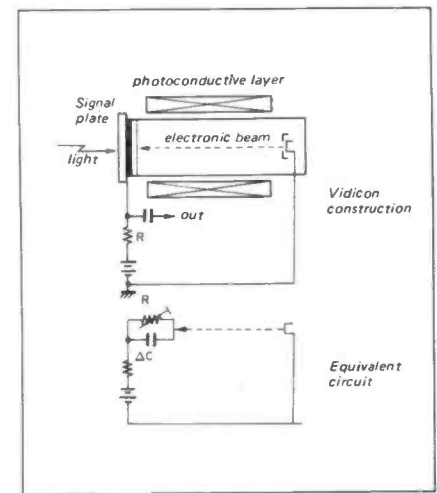

Figure 8: A simplified outline of a Tricon tube together with its equivalent circuit.
Figure 8 shows a simplified outline of a vidicon tube together with its equivalent circuit considering just one element of the photoconductive layer, which may be thought of as a resistance (whose value varies according to the amount of incident light falling upon it) in parallel with a small capacitance, as the scanning electron beam passes the 'beam' side of the plate assumes the cathode's potential (0V) while the 'signal plate' side is at target voltage (T). Any light incident on the tube's face will have the effect of discharging the capacitance as the value of the parallel resistance